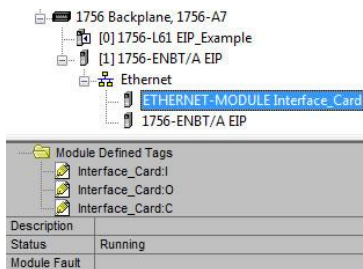

Figure 41: Online Module Status
- 7) Switch to online mode and download the project to the PLC. Verify that the newly-added inverter is available and operating correctly by observing any indications shown on the inverter's icon. When the inverter's icon is selected, its status and any available error messages will be displayed in the area below the project tree. Refer to Figure 41. Also confirm that the interface card's “Network Status” LED should be solid green, indicating an “online/connected” state.